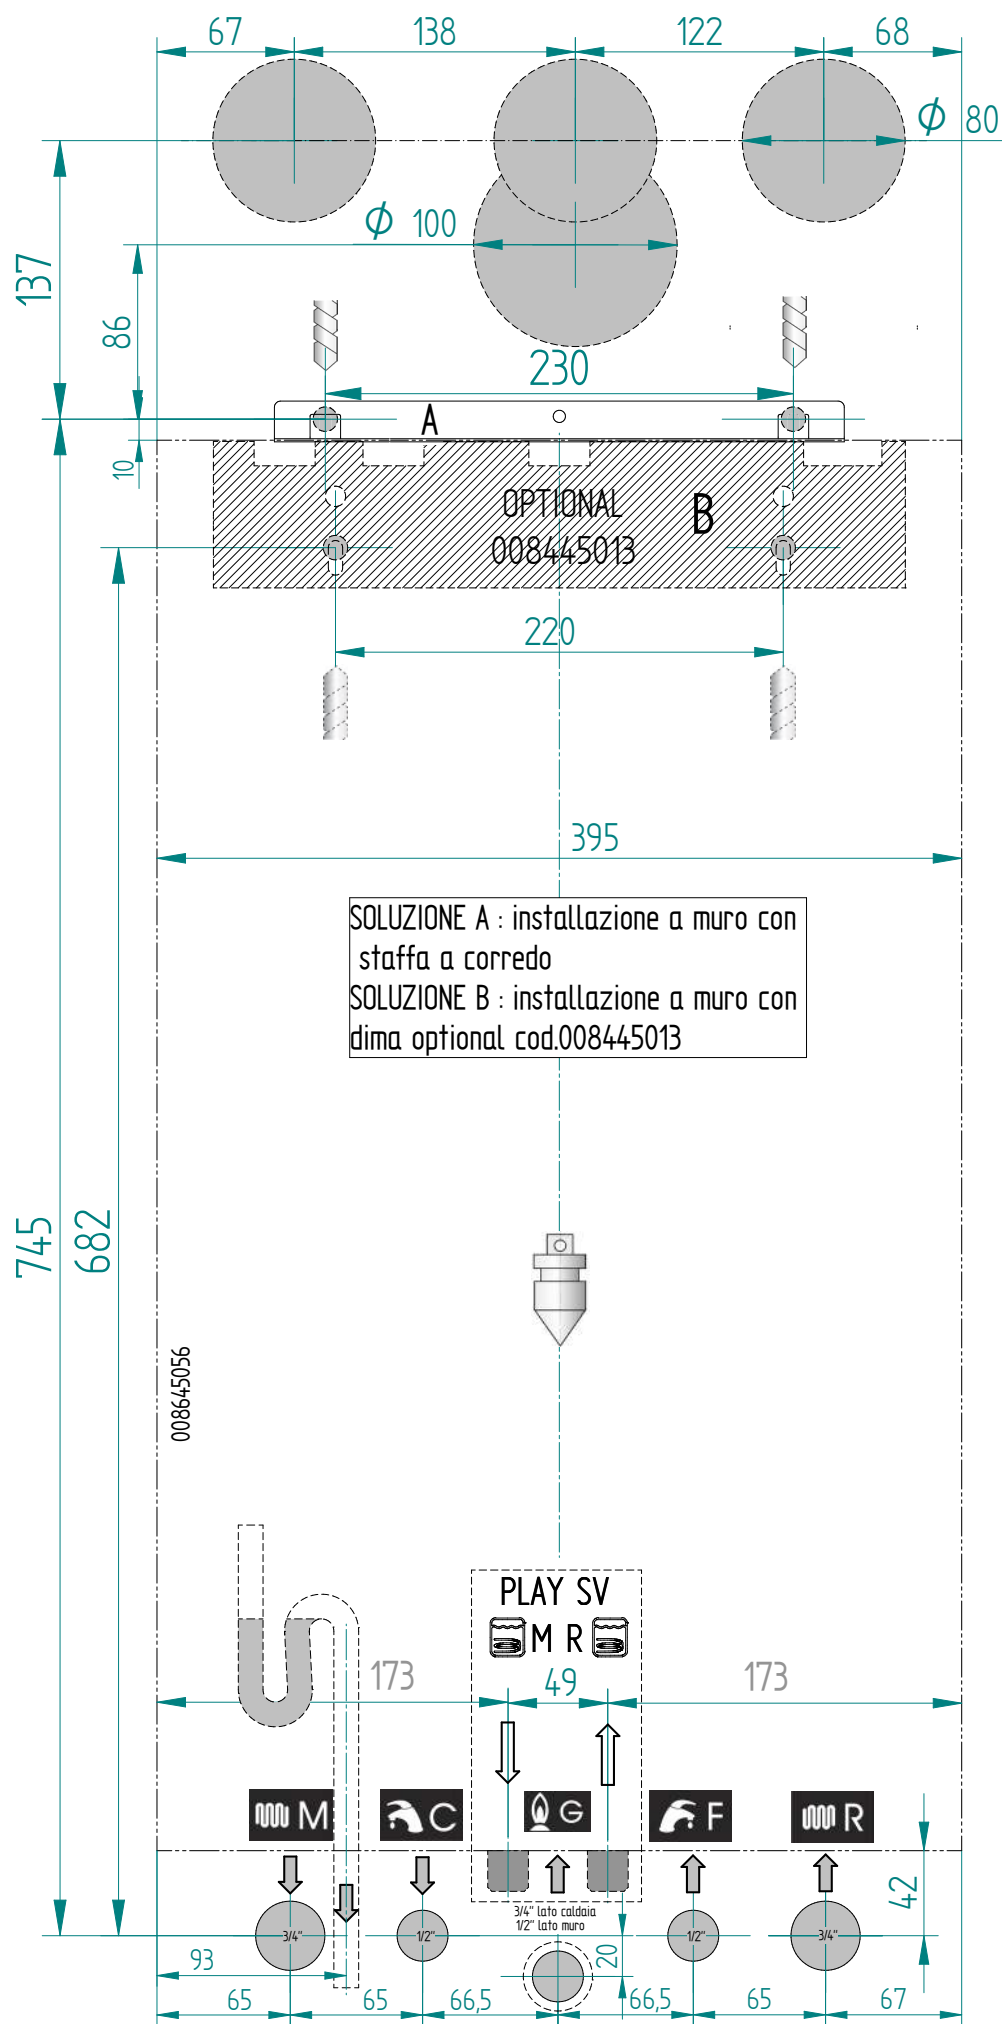

fig. 5
- c) the template for boiler fixing to the wall (fig. 5).
Each appliance is equipped with a suitable template made from paper and added inside the packaging (fig. 5).
- fasten the template (fig. 5) to the wall;
- drill the holes in the wall for the retaining blocks of the boiler support bracket (bracket A in fig. 5);
- position the fittings for the connection of the gas supply pipe (G), the cold water supply line (F), the hot water outlet (C, for Play Entry version only), the secondary supply toward the boiler (for Play Entry SV version only), the secondary return from the boiler (for Play Entry SV version only), the heating delivery line (M) and the heating return line (R) by matching them to the same points on the template (bottom side);
- drill the holes in the wall for the retaining blocks of the boiler support bracket (bracket B (008445013) in fig. 5);
- remove and fit back on the boiler the standard bracket (A) reversed;